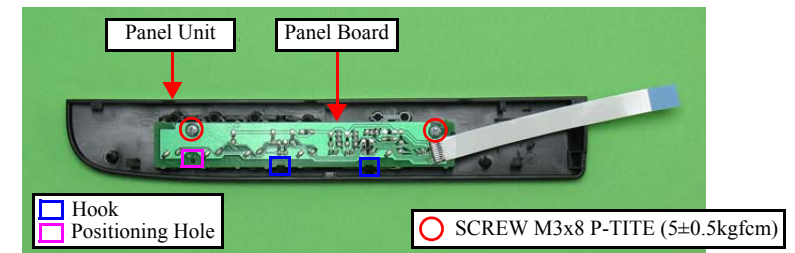

Figure 4-18. Removing the Panel Board
- When installing the Panel Board, align the positioning hole of the Panel Board with the dowels of the Panel Cover. (See Fig.4-18)